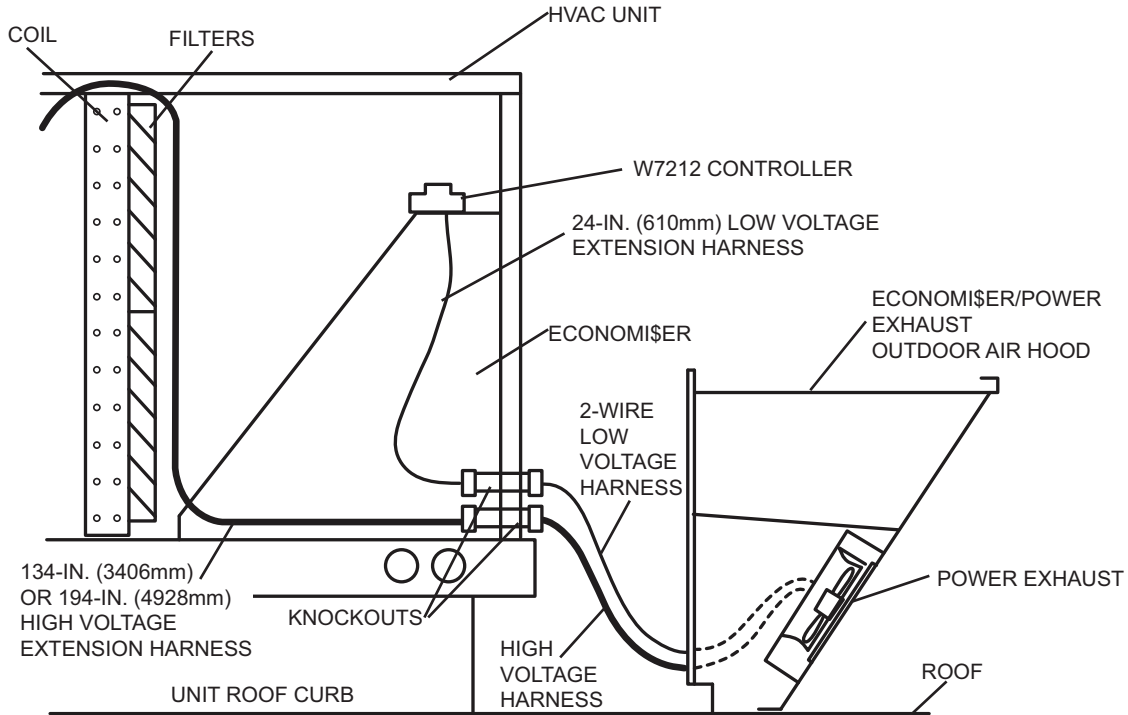

Fig. 4 — Power Exhaust Harness Installation for EconoMiSer IV with W7212 Controller
4. *For EconoMi\$er IV:* Route the other end of the low voltage extension harness to the EconoMi\$er IV controller. (See Fig. 4.) The harness is connected to the controller by connecting the tan wire to the tan wire 24 VAC COM terminal on the controller. The terminal on the gray wire is connected to terminal EF1 on the controller. See Fig. 6 and 7 for EconoMi\$er wiring diagrams. Install the gray jumper wire on the controller from the exhaust fan terminal (EF), to the 24 VAC HOT terminals. The gray jumper is shipped wire tied to the control harness.